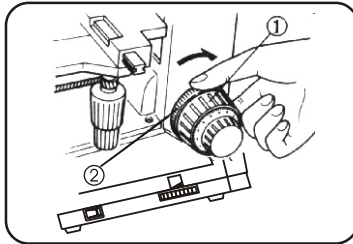

Fig. 23
### 8 Adjusting the Tension of the Coarse Focus Adjustment Knob (Fig. 23)
1. While holding the coarse focus adjustment knob ①, rotate the coarse focus adjustment knob tension adjustment ring ②. Rotating the adjustment ring in the direction of the arrow increases the tension of rotation, and rotating the ring in the opposite direction decreases the tension.
2. If the stage lowers itself due to its weight or focussing position obtained with the fine focus adjustment knob is lost easily, the tension of the coarse focus adjustment knob may be too loose. Increase the tension by rotating the adjustment ring ② in the direction of the arrow. (Fig.23)